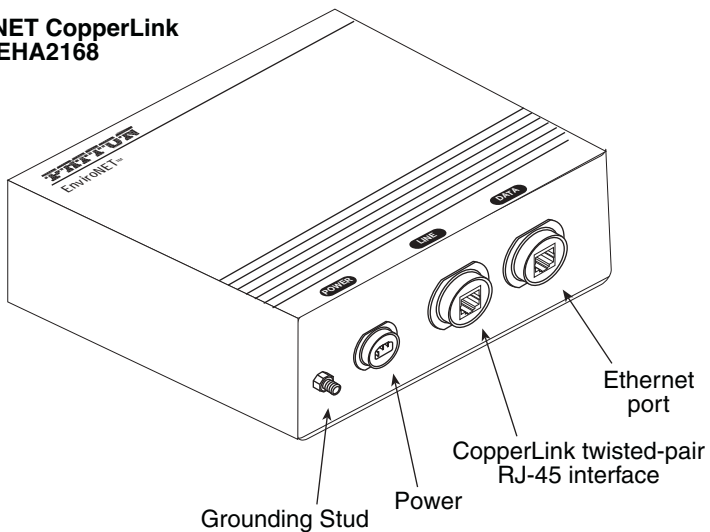

Figure 2. EHA2168 Bottom Panel
Note See Figure 2 for the EHA2168 unit’s bottom panel arrangements.
2. Install the grounding wire between the grounding stud (see Figure 2 on page 8) and the grounding source.